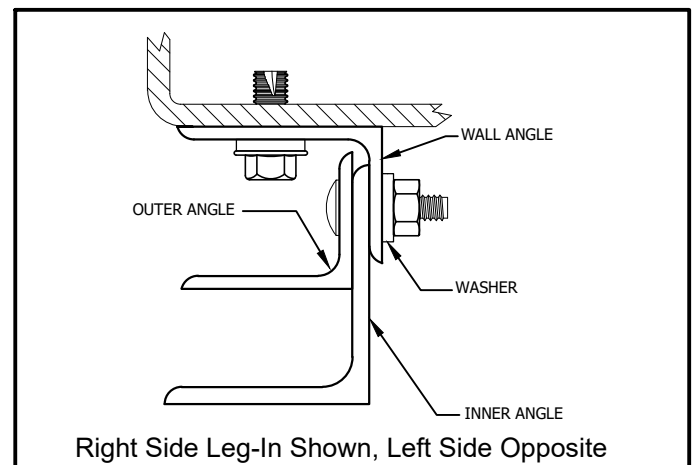

FIGURE 9
- a. For a Leg-In orientation, replicate the setup shown in Figure 9 for the right side. Mirror the setup for left. Use one washer under each nut as shown.